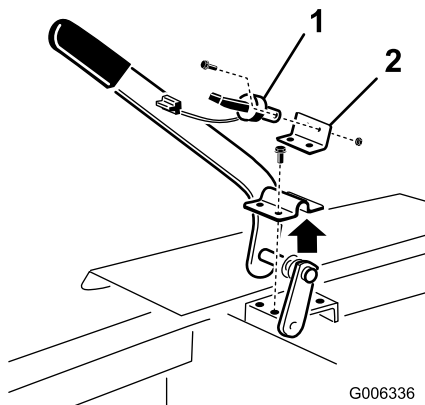

Figure 7
2. Disconnect the PTO switch wire connector from the traction unit main wire harness connector (Figure 7).
3. Remove the two cap screws securing the PTO switch mount to the frame and remove the switch mount and switch (Figure 7).